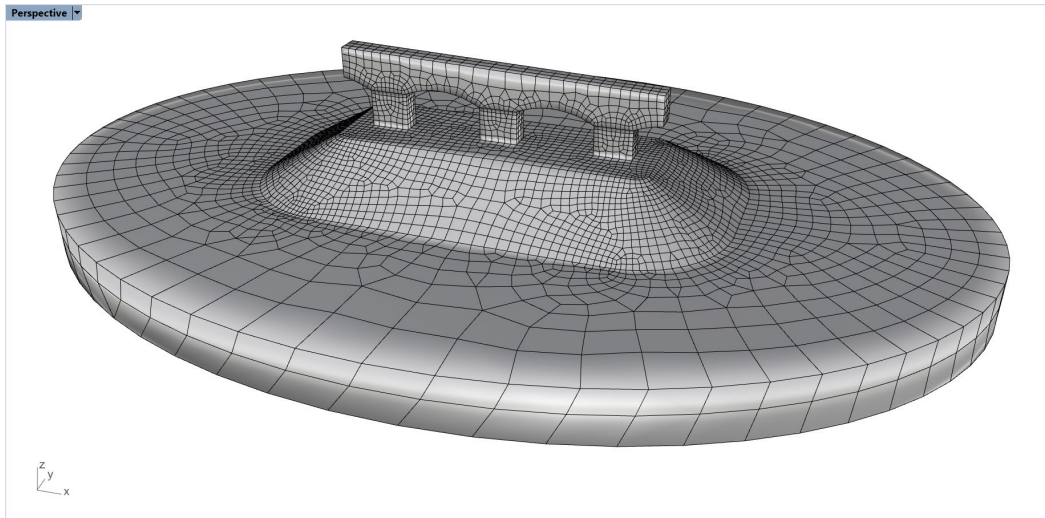

Figure 28: Remeshed surface mesh in the second approach.
23. Select the merged surface mesh (as in Figure 28) and type the **_GExtract** command or click on the  icon in the *Griddle* toolbar. Select option *AllSurfaces* and use *MaxBreakAngle* = 180 to separate meshes only along non-manifold edges (the break angle will not have an effect as it is set to 180°). Alternatively, if break angle = 89° is used, all meshes that connect at an angle > 89° will also be separated (thus, meshes that are perpendicular to each other will be separated).